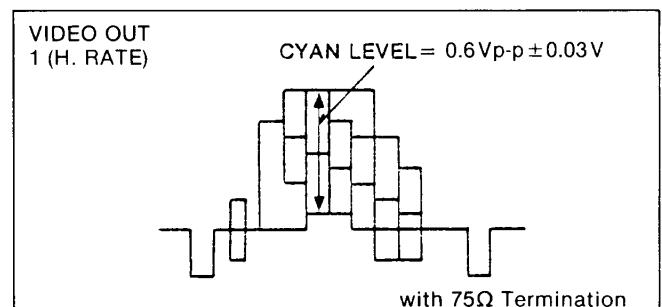

Figure E41
4. Adjust VR8009 for 0.6 +/- 0.03Vp-p as shown in Figure E41.